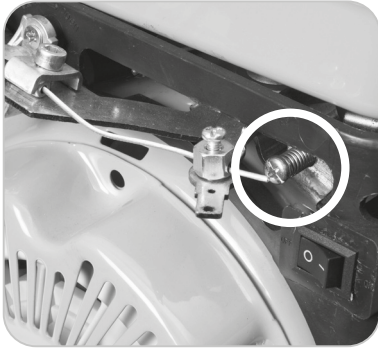

Fig. 11
- Turn the Fast Run Screw (**Fig. 11**) a little at a time (half a turn max) clockwise to decrease the engine speed, or counter clockwise to increase the speed of the engine.